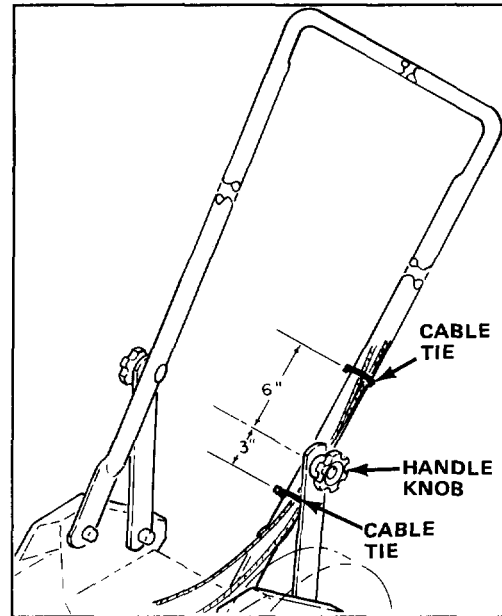

Figure 4
3. ATTACH CABLE TIES (Fig. 4)—Use a cable tie to secure control cables to lower handle 6 inches up from the handle knob. Secure the control cables to lower handle 3 inches below handle knob using the remaining cable tie.